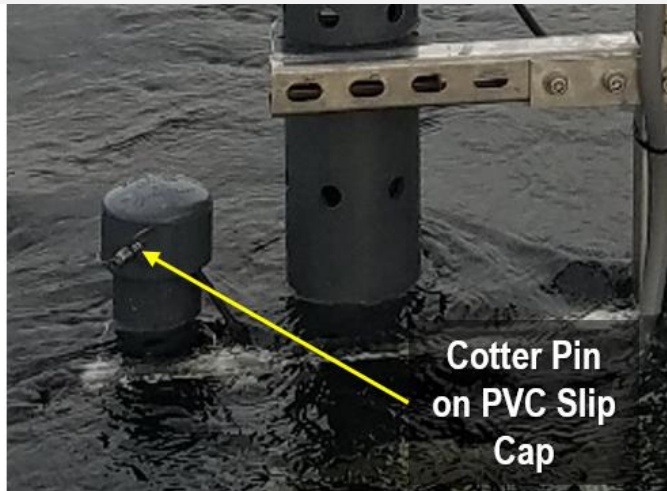

Figure 21. Remove the Sensor from the PVC Housing
STEP 4 | Remove the sensor from the PVC housing by removing the cotter pin from the PVC slip-on cap (Figure 21).